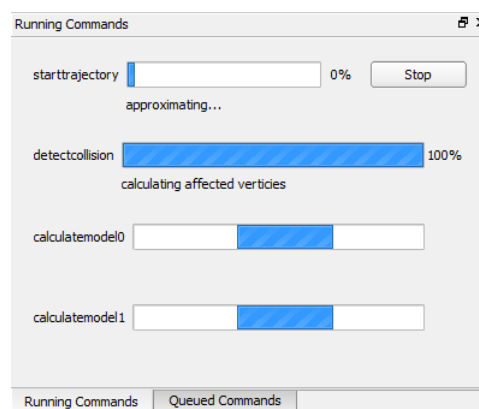

Figure 13.1.: Trajectory calculation with collision detection
- **Delegating Commands:** They operate a task that requires executing other commands (e.g. Trajectory; see Figure 13.1)